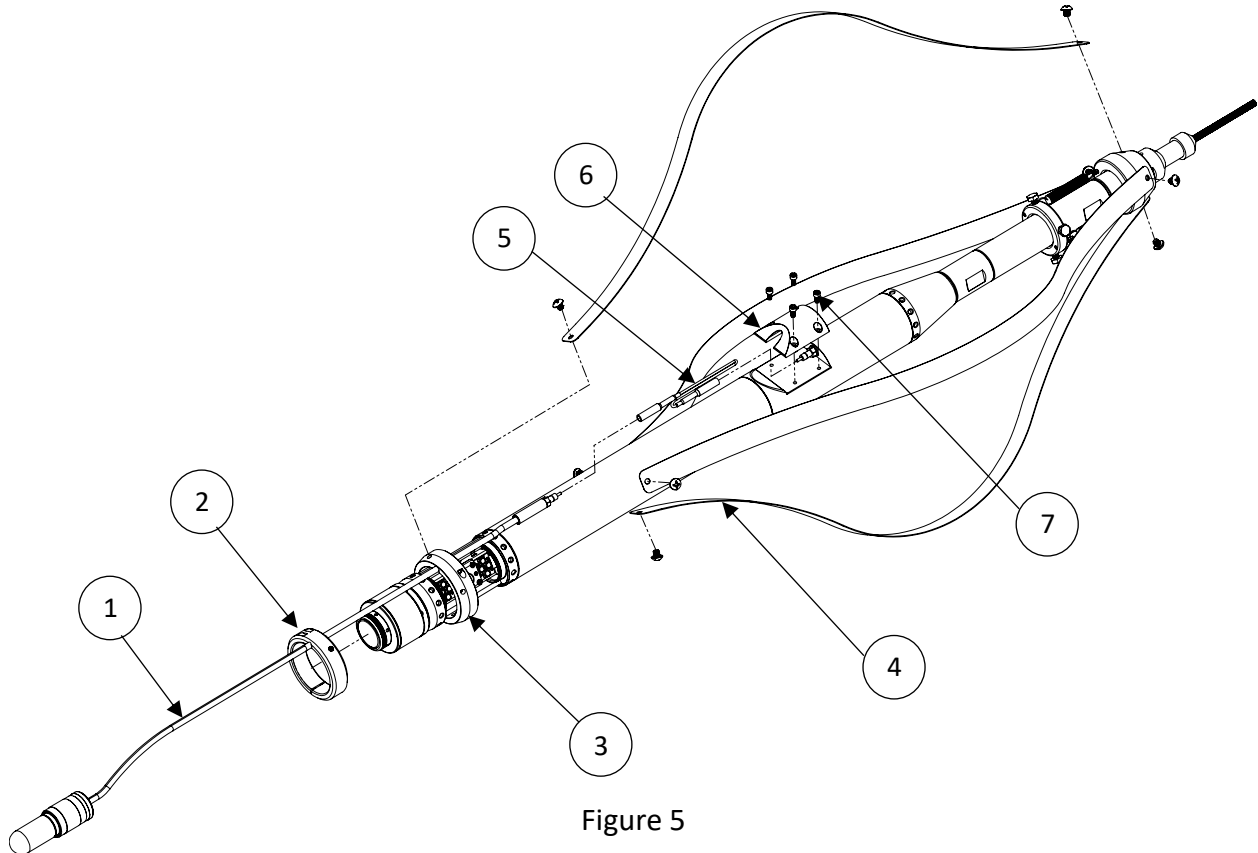
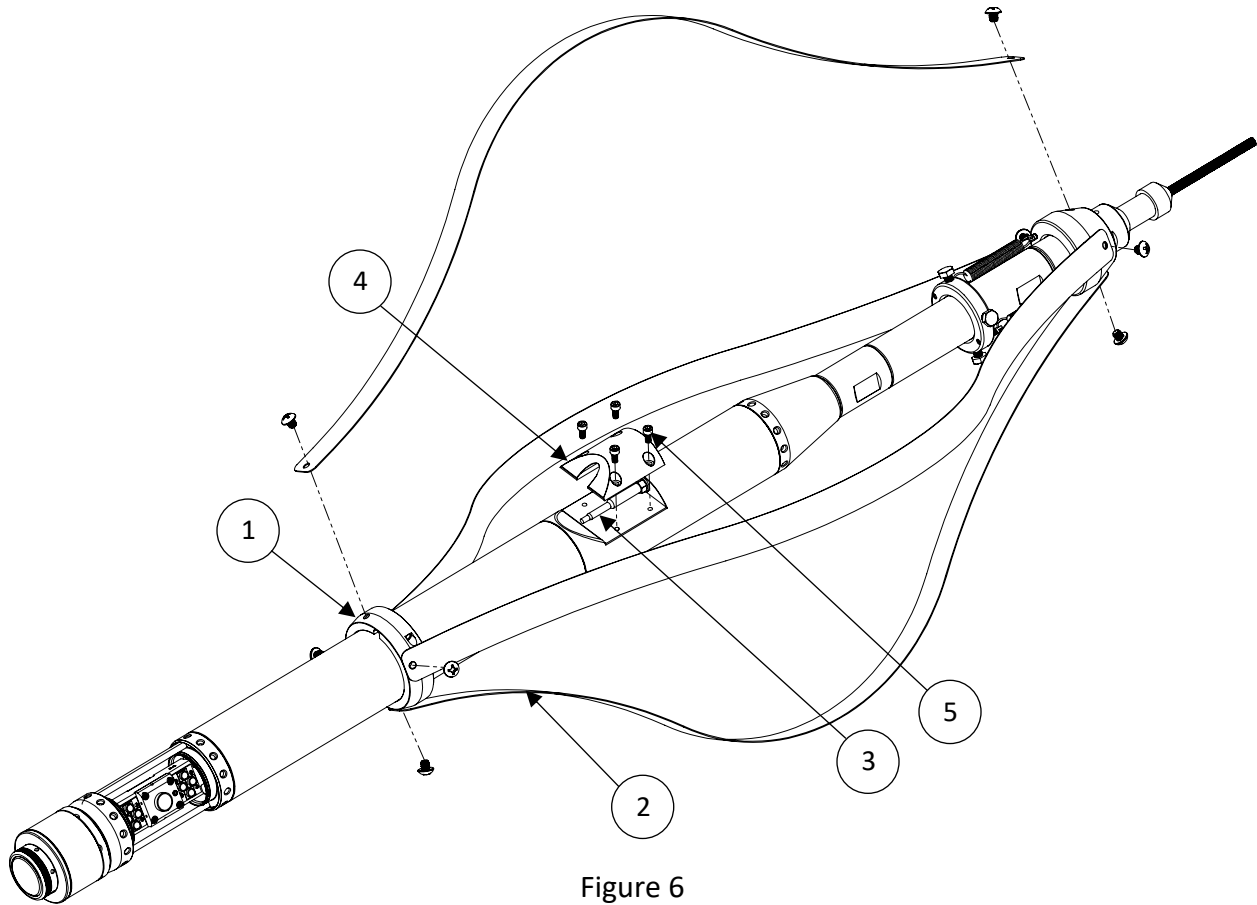

Figure 5
Figure 6
2. Remove the Allen Head Screws (Figure 5 Item 7) holding the Plastic Cover (Figure 4 Item 6) over the Light Bar Plug (Figure 5 Item 5)
3. Disconnect Light Bar Plug (Figure 5 Item 5) from the camera
4. Install the Dummy Plug (Figure 6 Item 3) and replace the Plastic Cover (Figure 5 Item 4) with the Allen Head Screws (Figure 6 Item 6)
5. Loosen the Light Head Collar (Figure 5 Item 2) and remove it from the housing
6. Disconnect the Centralizer Bands (Figure 5 Item 4)
7. Loosen and remove the Centralizer Bottom Collar (Figure 5 Item 3)
8. Remove Light Bar (Figure 5 Item 1) and store properly to prevent damage
9. Place Centralizer Bottom Collar (Figure 6 Item 1) back onto the camera housing
10. Tighten the Bottom Collar (Figure 6 Item 1) and Bands (Figure 6 Item 2)
2. Remove Centralizer Bands (Figure 6 Item 2) and Centralizer Bottom Collar (Figure 6 Item 1) from the housing
3. Place Light Bar into groove of Centralizer Bottom Collar and Light Head Collar, refer to Figure 5 Items 1, 2, & 3.
4. Slide Light Bar (Figure 5 Item 1) with Centralizer Bottom Collar (Figure 5 Item 3) and Light Head Collar (Figure 5 Item 2) onto housing
6. Remove the Allen Head Screws (Figure 6 Item 5) holding the Plastic Cover (Figure 6 Item 4) over the Light Bar Plug
7. Remove the Dummy Plug (Figure 6 Item 3) and replace with the Light Bar Plug (Figure 5 Item 5)
8. Install the Plastic Cover (Figure 5 Item 6) with the Allen Head Screws (Figure 5 Item 7)
9. Ensure opposite end of Light Bar Plug (Figure 5 Item 5) is installed on the Light Bar (Figure 5 Item 1)
10. Adjust Light Bar (Figure 5 Item 1) to desired position and secure with set screws on both the Centralizer Bottom Collar (Figure 4 Item 3) and Light Head Collar (Figure 4 Item 2)